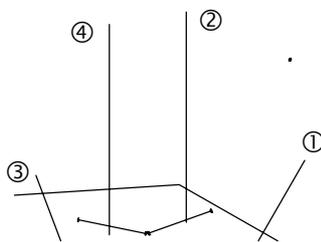

Figure 25
- Now, turn off the *Stair* layer, set the *Current Layer* to *ShadeCloth* and use Figure 25 as a guide to position the *UCS* with the *Origin* at 1, the *X-axis* passing through 2, and with 3 representing a point on the positive-*Y* portion of the *XY* plane — use *Draw > Arc > Start, End, Direction* (from the pull down menus) to construct arcs between 1 & 2 and 1 & 3, being careful to use *|ENDpoint|* to lock accurately to those points, and judging the curvature of the arcs by eye.